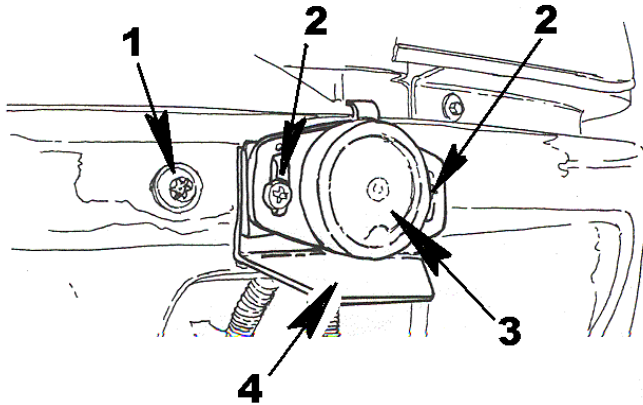

Figure 88 Magnetic Lock Device
7. Locate the electro magnet mounting bolts (Figure 88, Item 2) and loosen from bracket and bumper by removing bolts, flat washers and lock nut.
8. Remove lock device and bracket (Figure 88, Item 3 and 4).